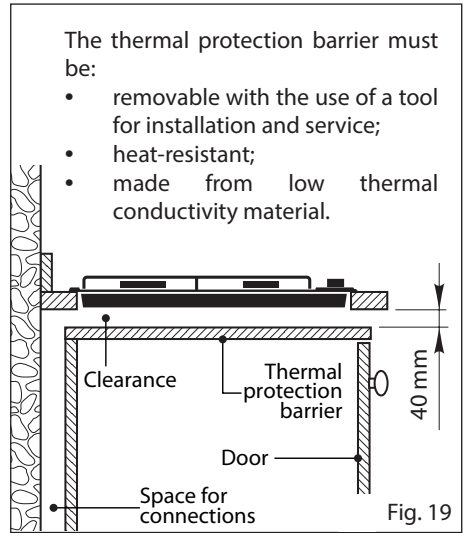

Fig. 19
- If the cooktop is installed directly above an oven (which does not have a cooling fan motor) a thermal protection barrier must be installed below the base of the cooktop as indicated in fig. 19.
- If the cooktop is installed directly above an oven (which does not have a cooling fan motor) or if its base is accessible through a cupboard or drawer space after installation, a thermal protection barrier must be installed below the base of the cooktop as indicated in fig. 19.
- If the base of the cooktop is accessible through a cupboard or drawer space after installation, a thermal protection barrier must be installed below the base of the cooktop as indicated in fig. 19.